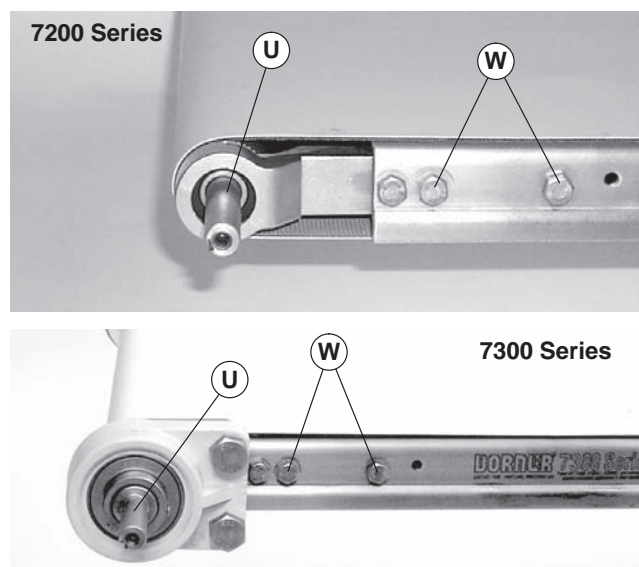

Figure 3
2. Locate conveyor input shaft (Figure 3, item U) and remove and discard two screws (W).
2. Locate conveyor input shaft (Figure 3, item U). Remove and discard two screws (W).